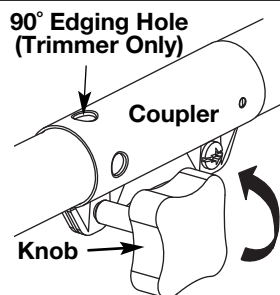
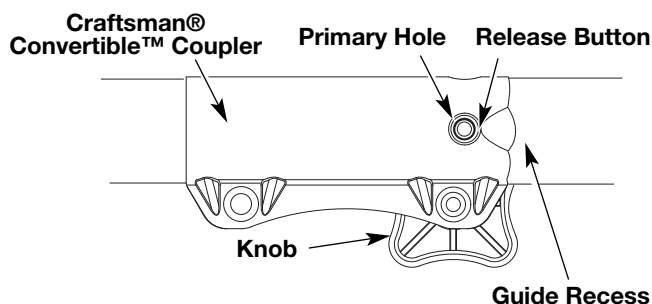
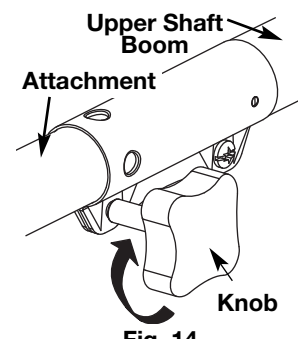

Fig. 12
Fig. 13
Fig. 14
2. Turn the knob counterclockwise to loosen coupler (Fig. 12).
3. Push in the release button (Fig. 13) and twist the shaft 90° until the release button snaps into the 90° hole (Fig. 12).
4. Turn the knob clockwise to lock the coupler (Fig. 14).
CAUTION: Before operating this unit, be sure that the release button is fully snapped into the primary hole (Fig. 13), and that the knob (Fig. 14) is securely tightened.